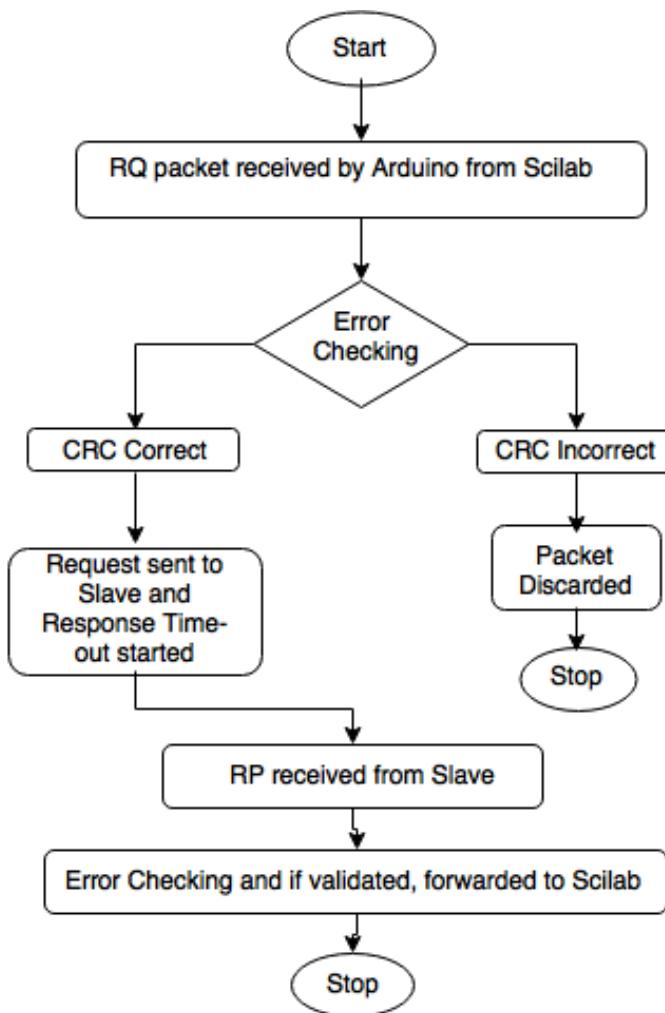

Figure 11.6: Flowchart of Arduino firmware
1. Firmware for Arduino Uno: This firmware is needed to communicate with Julia (using serial interface), and with RS485 module (using Software Serial interface). Control logic to enable receive and transmit modes of MAX485 chip is also present in this firmware. Fig. 11.6 demonstrates the overall implementation of this firmware.